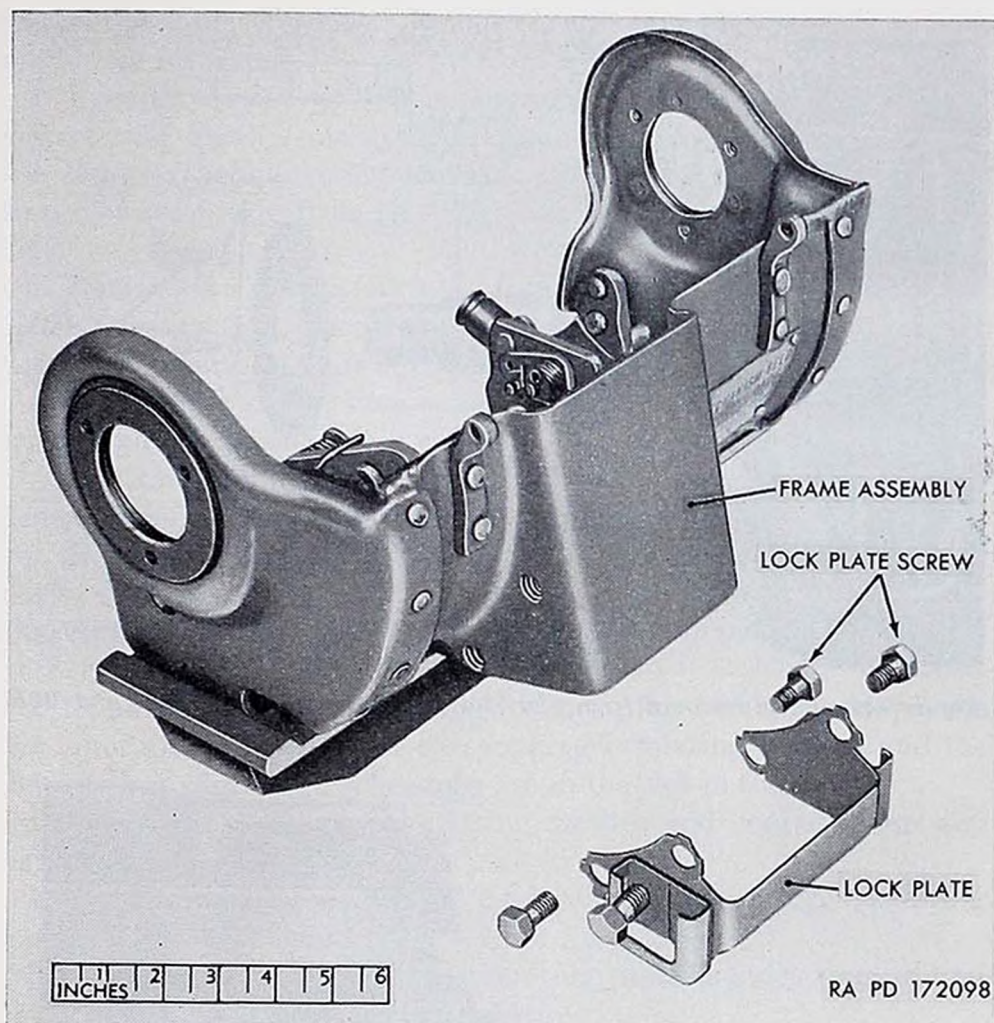

Figure 148. Removal of lock plate.
m. Remove the four lock plate screws and lock plate from frame assembly (fig. 148).